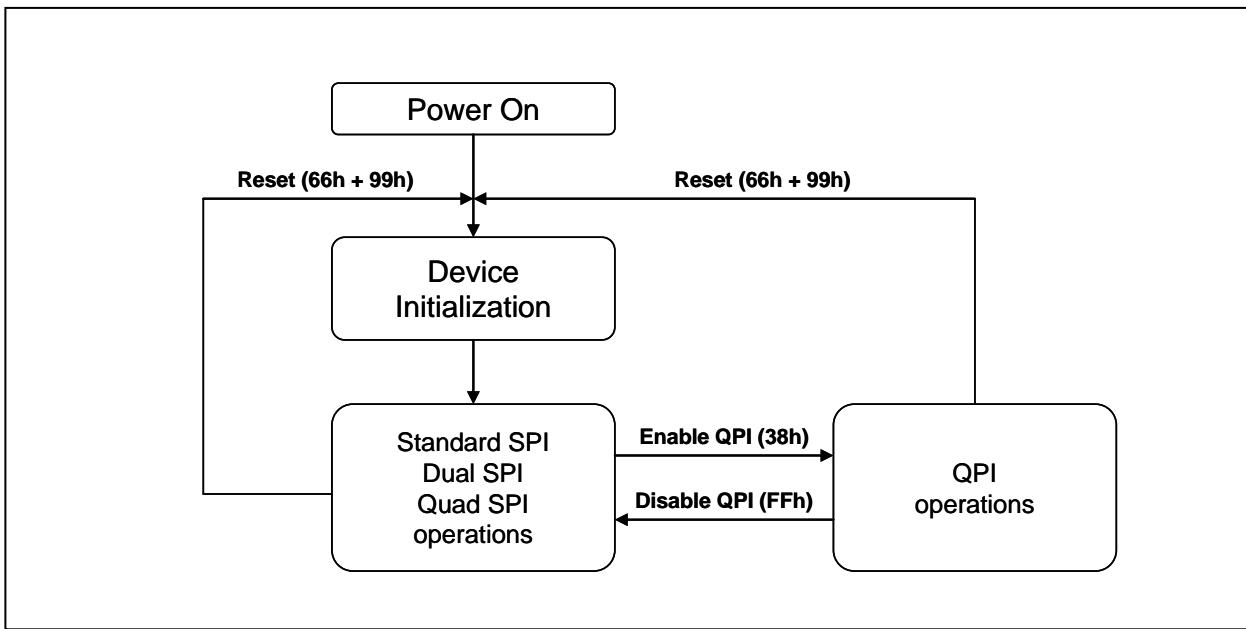

Figure 3. W25Q32DW Serial Flash Memory Operation Diagram
The W25Q32DW supports Quad Peripheral Interface (QPI) operations only when the device is switched from Standard/Dual/Quad SPI mode to QPI mode using the "Enable QPI (38h)" instruction. The typical SPI protocol requires that the byte-long instruction code being shifted into the device only via DI pin in eight serial clocks. The QPI mode utilizes all four IO pins to input the instruction code, thus only two serial clocks are required. This can significantly reduce the SPI instruction overhead and improve system performance in an XIP environment. Standard/Dual/Quad SPI mode and QPI mode are exclusive. Only one mode can be active at any given time. "Enable QPI (38h)" and "Disable QPI (FFh)" instructions are used to switch between these two modes. Upon power-up or after a software reset using "Reset (99h)" instruction, the default state of the device is Standard/Dual/Quad SPI mode. To enable QPI mode, the non-volatile Quad Enable bit (QE) in Status Register-2 is required to be set. When using QPI instructions, the DI and DO pins become bidirectional IO0 and IO1, and the /WP and /HOLD pins become IO2 and IO3 respectively. See Figure 3 for the device operation modes.